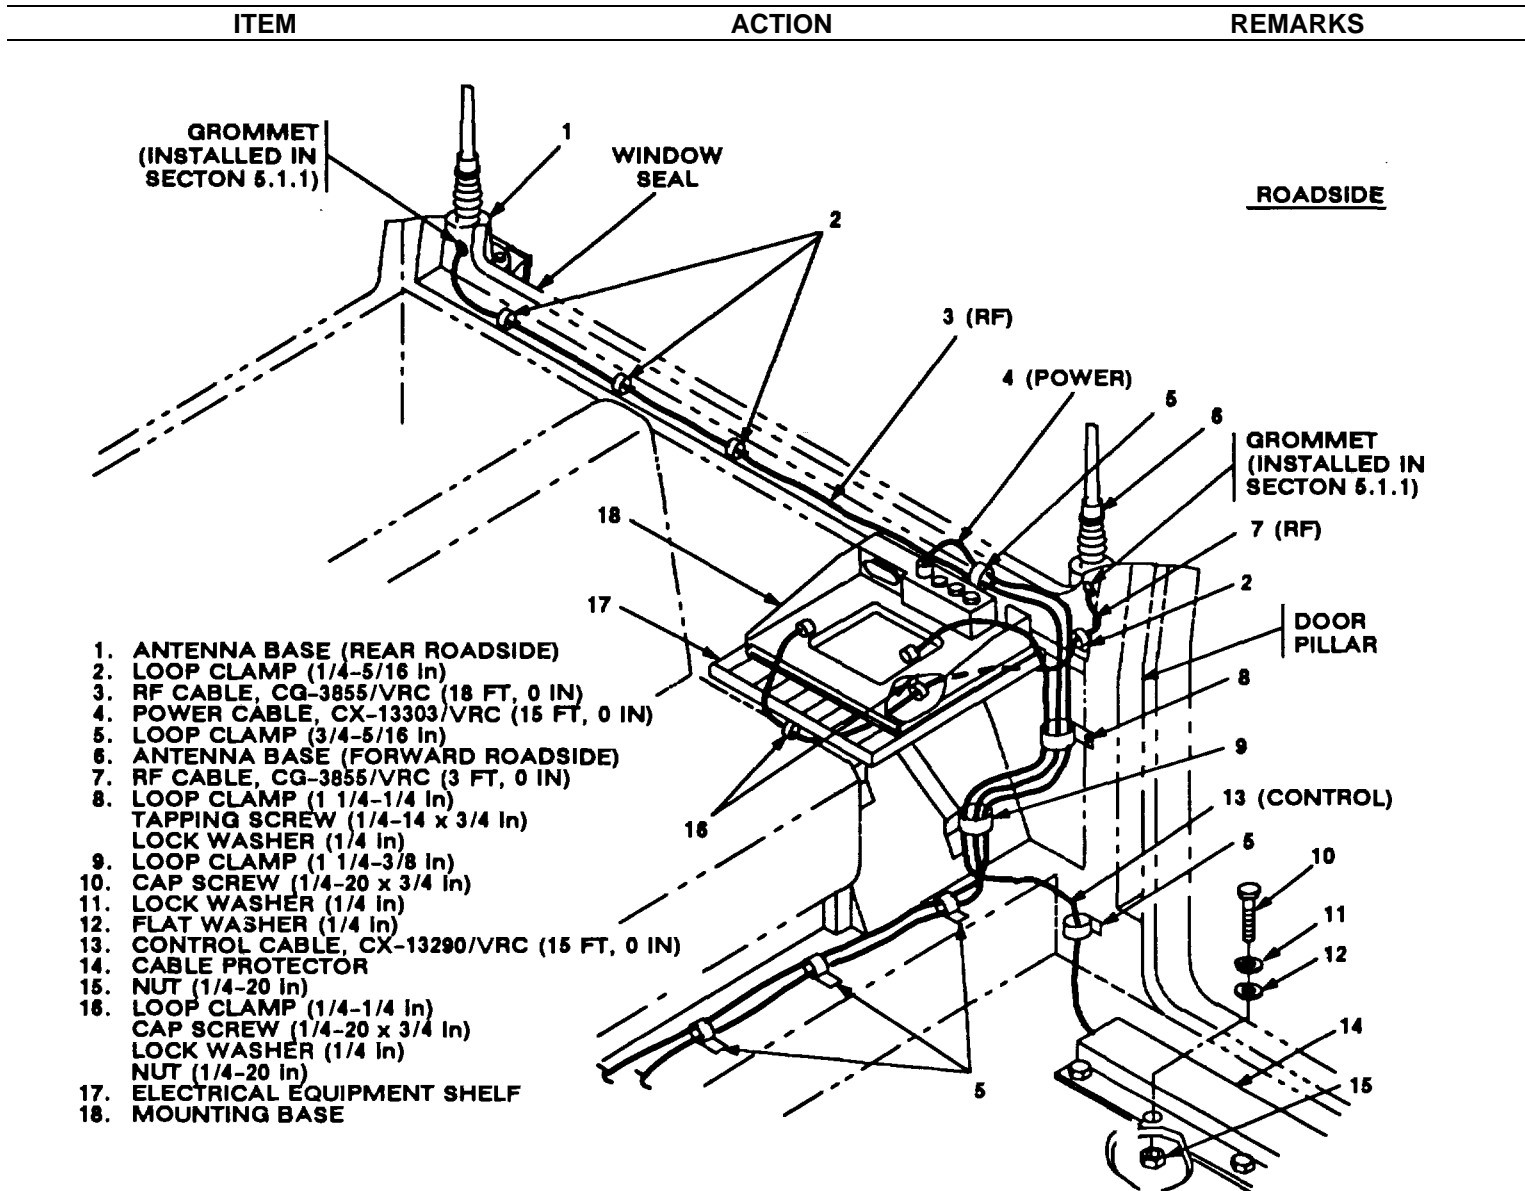

Figure 5-8(2). Cable Installation: Rear Roadside Passenger Area
t. Control cable (13) connector P2.	Position on top of mounting base (18).
u. Mounting holes for cable protector (14).	Place cable protector over control cable (13); then drill ten 9/32 in diameter holes through floorboard of roadside doorway using cable protector as a template.	Tools: Electric drill and 9/32 in drill bit.
v. Ten cap screws (10), ten lock washers (11), ten flat washers (12) and ten nuts (15).	Install and secure to cable protector (14) and floorboard.	Tools: 7/16 in socket and 7/16 in open/box wrench.
w. Loop clamp (5) and existing mounting hardware.	Wrap clamp around control cable (13); then install to existing hole near rear edge of roadside doorway. See figure 5-8 (2) for location(s).
x. RF cable (3) connector P1, figure 5-8 (2).	Insert through grommet (10) and loop clamp (6), figure 5-2 (4); then connect and secure to antenna base (1) connector J1.
y. RF cable (3).	Route along window seal and rear wheelwell to roadside doorway. See figure 5-8 (2).
z. Three loop clamps (2) and existing mounting hardware.	Wrap clamps around RF cable (3); then install to existing holes below window seal. See figure 5-8 (2) for location(s).